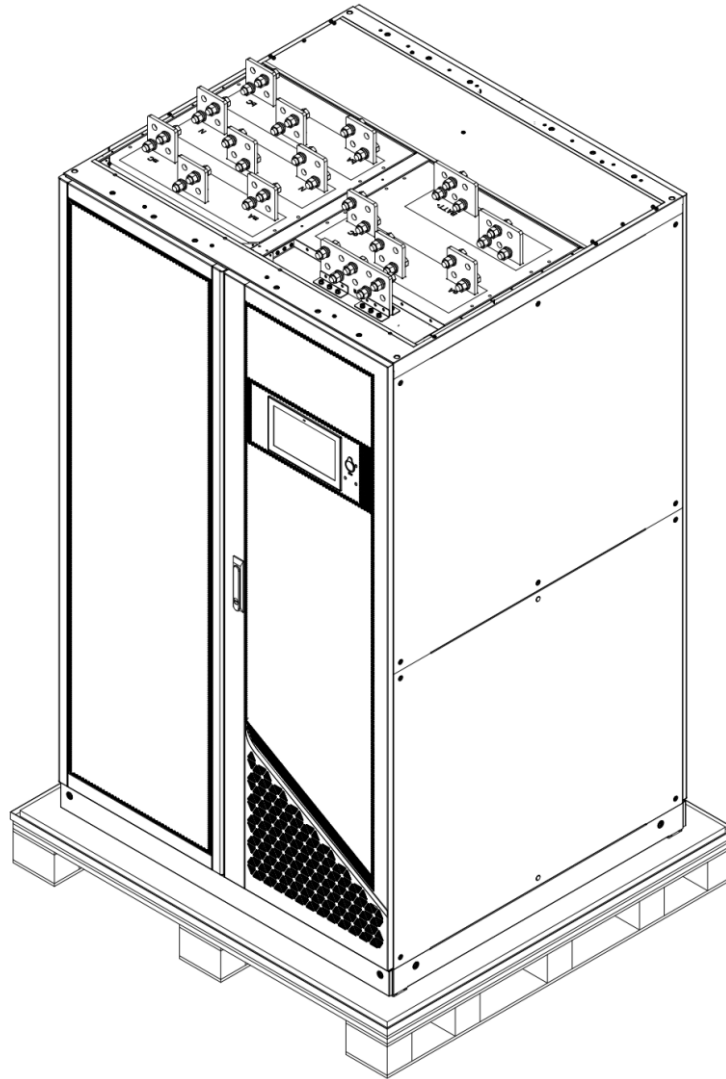

Figure 3-28 Remove the cushioning foam
Step 4: After opening the wooden box, remove the cushioning material, as shown in Figure 3-28 below;